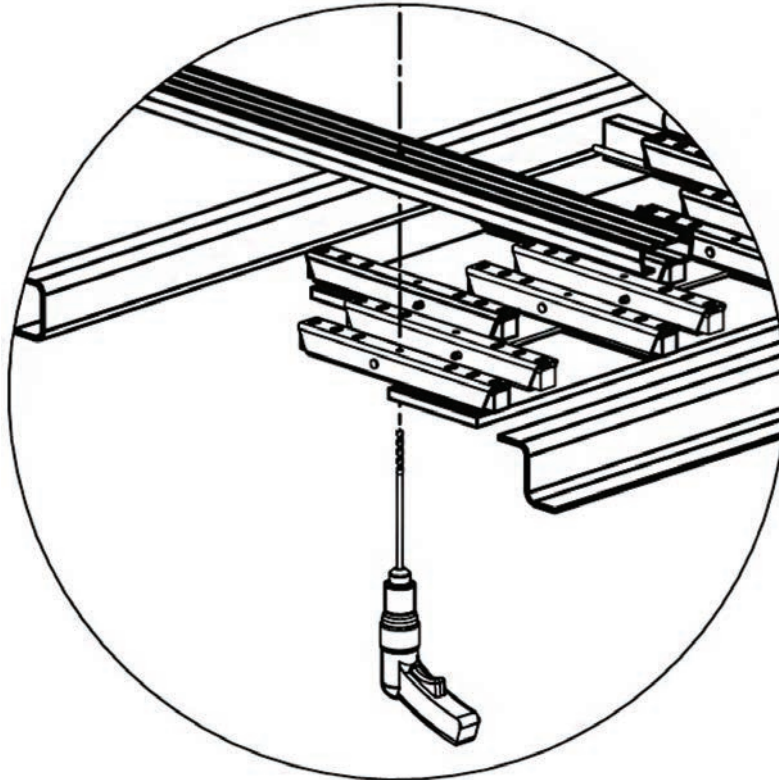

Figure 29
- Use a 5/16" [8 mm] extension bit to drill up through the aligning holes in the bottom of the outer shoes of each cross drive (six places=two per cross-drive). Note that this hole is the only hole through the bottom of each shoe and that there are no threads in the corresponding hole in the nut bar. (Figure 29)
- c) Set the 7-hole drill jig on top of the floor slats. Note that small hole in the series is used to align the jig, but it is not in the center of the pattern and must be in the proper orientation for aligning the jig properly. Determine the proper orientation for the jig and align it along one crossmember by inserting two 5/16" [8 mm] bits through the jig into the holes drilled through the slats (one in each end of the jig). Note: Put a few layers of tape on the bit at the point Figure 29 where the flutes run out and insert the smooth end of the drill through the holes to line up the jig.)